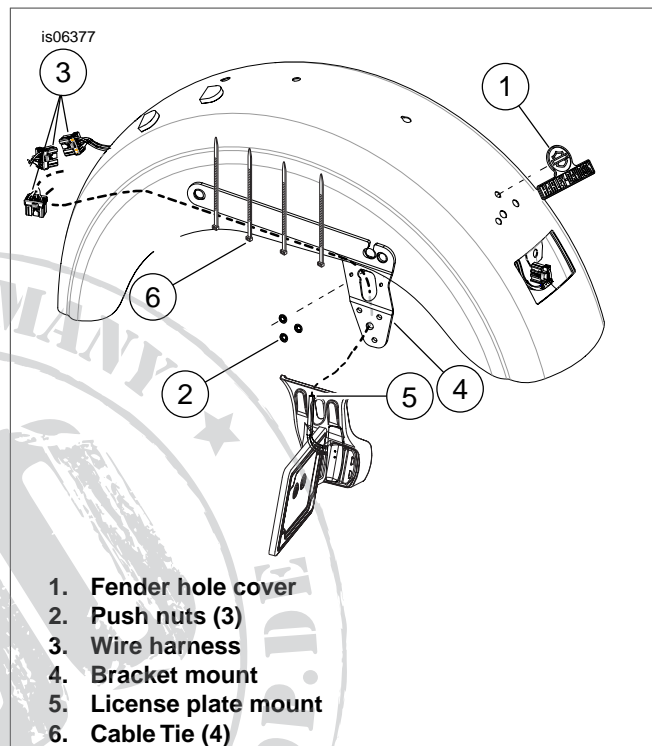

Figure 1. Wire Harness Routing and Fender Hold Cover
3. See Figure 1. Install fender hole cover and attach assembly (1) to fender with push nuts (2).
8. See Figure 1. Connect the kit wiring harness to the rear fender connectors (3) for the tail lights. Route light wire between the mount bracket (1 or 10) and the license plate mount. Pass the wires through the hole in the mount bracket.
10. See Figure 1. Route the wire harness along the underside of the mount bracket (1 or 10) and use four cable ties to attach the wires to the mount bracket. Connect the light wires to the harness (3).